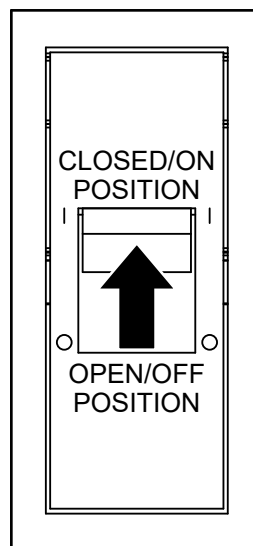

Figure 55. Main Circuit Breaker (Closed/ON)
- Place the **main circuit breaker** in the **CLOSED (ON)** position. See Figure 55.
1. Place the **main circuit breaker** in the **CLOSED (ON)** position. See Figure 55.